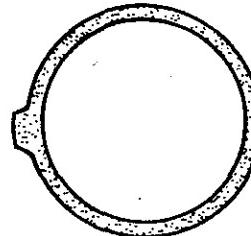

FIGURE 39
9.4 Secure a single cam stop at the 9:00 o'clock position. (Fig.39)